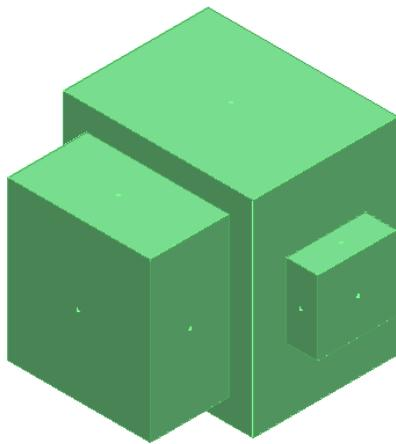

Figure 54: The Placed Design Equipment: FinFan
26. Click in the graphic view to place the shape in the model. The designed equipment is shown in Figure 54.